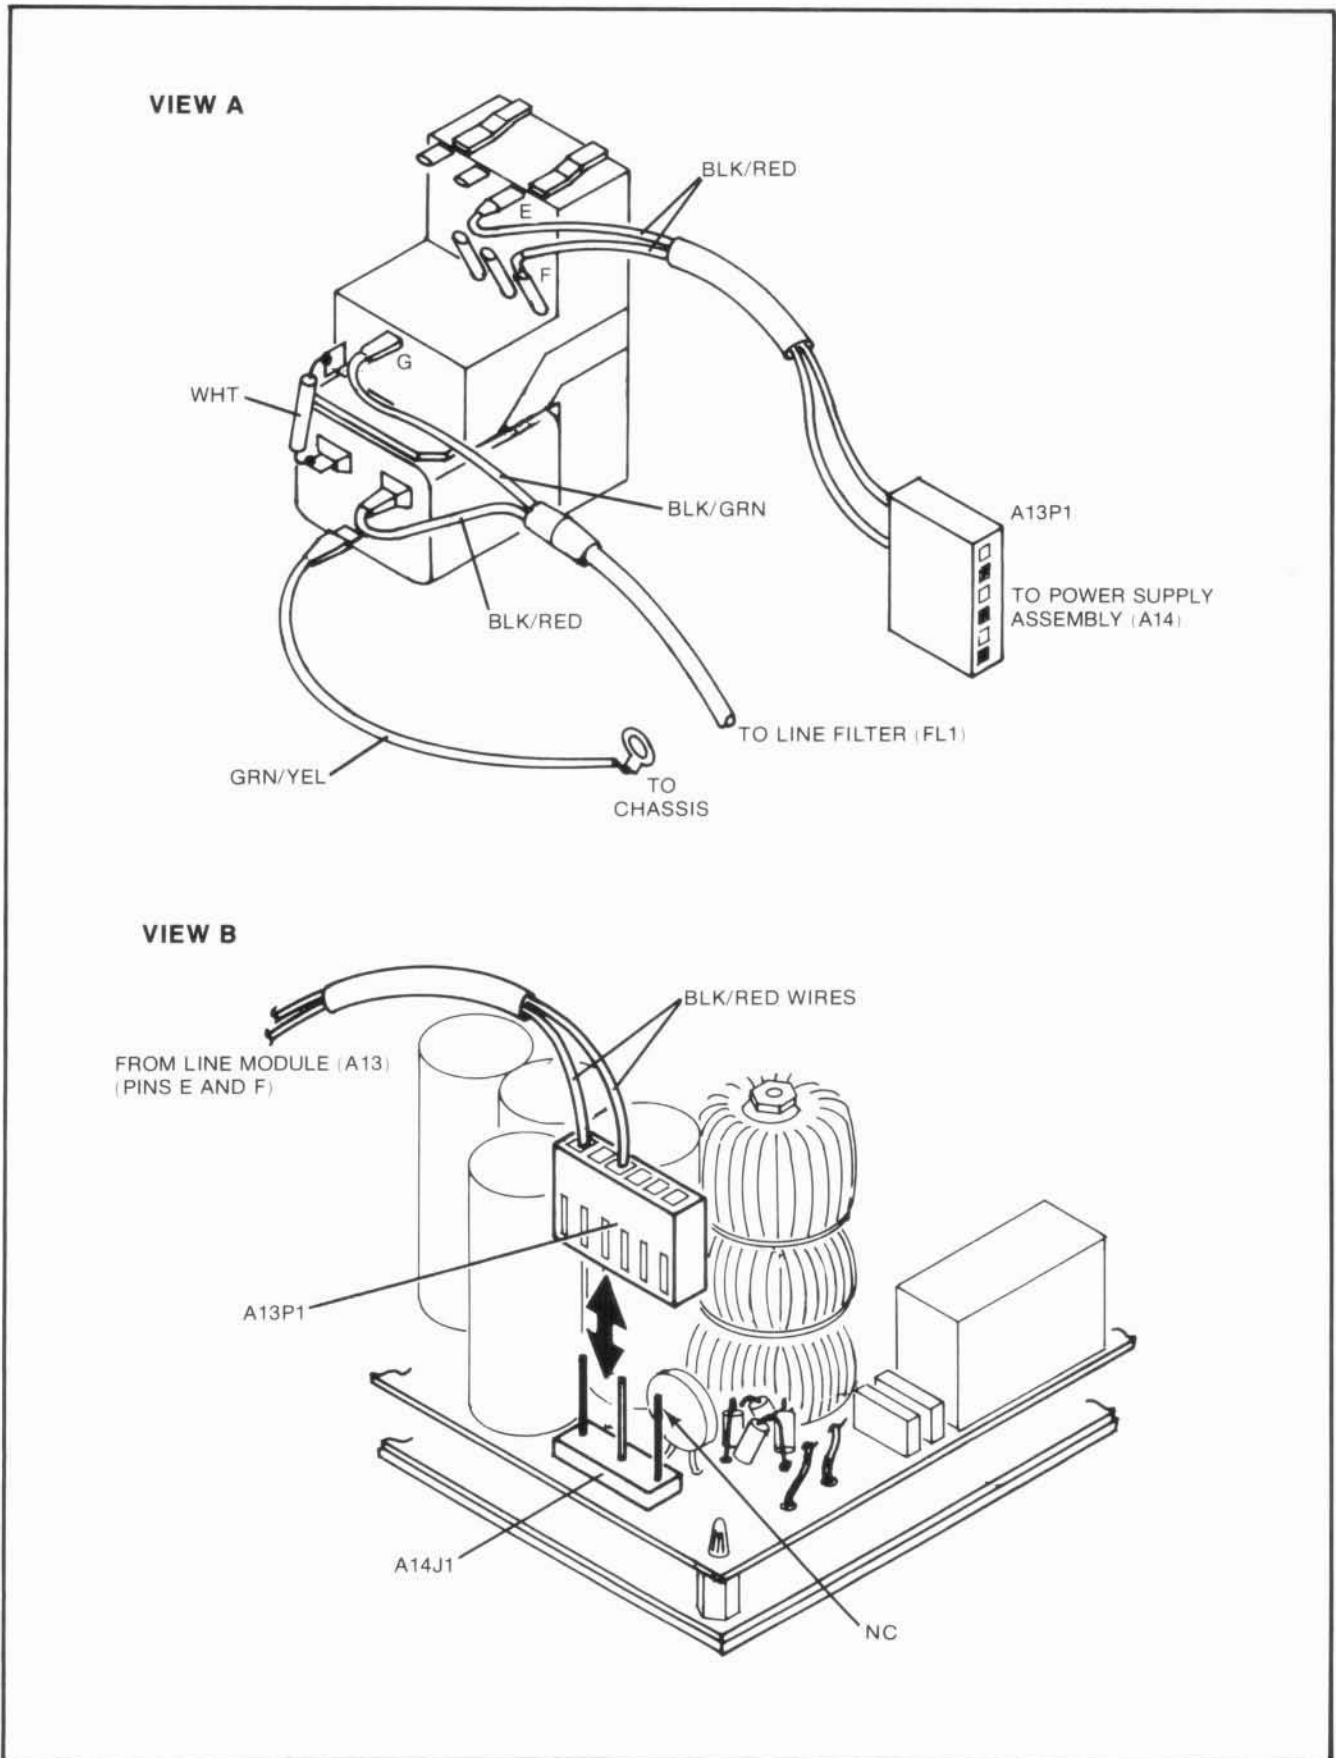

Figure 7-12. A13 Power Line Module Cable (View A) and A14 Power Supply (View B) Assembly Removal/Installation
- f. Disconnect the two BLK/RED wires from the A14 power module as shown in *Figure 7-12* (View B).
Refer to Figures 7-12 (View B) and 7-35 when reconnecting the two BLA/RED wires or the DC power cabling to the A14 Power Supply Assembly. These figures document the correct wiring scheme.
- k. From inside the HP 5507A, press down and out on the top of module at the two parallel plastic retainers that keep the retainer secure in the 5507A rear panel assembly. Repeat this operation at the bottom of the module. (See *Figure 7-12* (View A).)